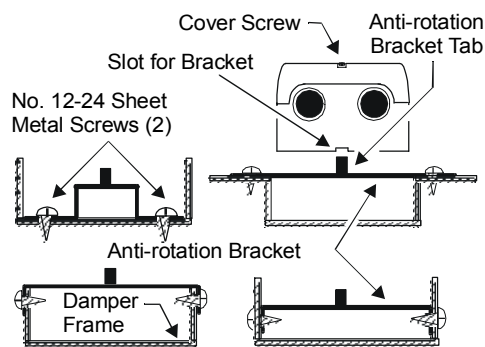

Figure 2: Anti-Rotation Bracket Positions
2. Bend or cut the anti-rotation bracket to fit the damper frame or duct as shown in Figure 2.
4. Insert the anti-rotation bracket tab into the slot at the bottom of the actuator (shown in Figure 2), and slide the actuator onto the shaft.